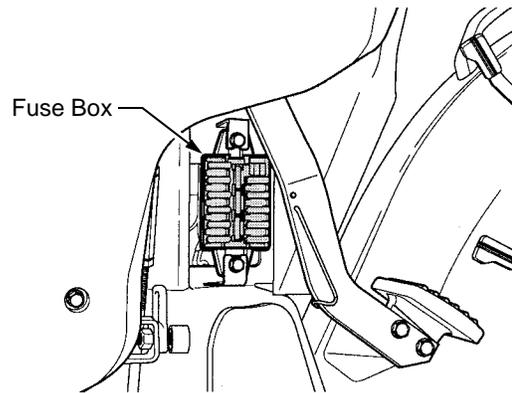

Figure 77
- Locate the fuse box on the lower left side of the pedestal near the clutch pedal. See Figure 77.